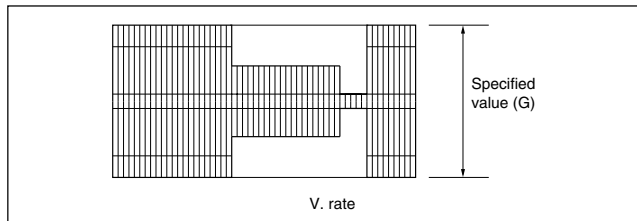

Fig. 3-3-4b REC color (colour) level
- (1) Connect the adjustment tool (H3) to the measuring point (D1).
- (2) Apply the external trigger signal to D.FF (E) to observe the PB color (colour) waveform at the measuring point (D2).
- (3) Play back the signal (A3) in the mode (B1) of the alignment tape (A1).
- (4) Press the channel buttons (+, -) simultaneously to enter the manual tracking mode. This also brings tracking to the center (centre).
- (5) Adjust tracking by pressing the channel buttons (+, -) so that the PB color (colour) waveform becomes maximum. Make a note of the higher PB color (colour) level as "B" at this time.
- (6) Record the signal (A3) in the mode (B1), and play back the recorded signal.
- (7) Set the VCR to the EVR mode by transmitting the code (F1) from the Jig RCU.
- (8) Set the EVR address to (F2) by pressing the button of the digit-key remote controller.
- (9) Adjust with the channel buttons (+, -) on the VCR (or on the remote controller) so that the higher level channel becomes the specified value (G) of the note "B" level as shown in Fig. 3-3-4b. (Adjust before recording, then confirm it by playing back.)
(10) After adjustment, record the signal (A3) then playing it back again. At this time, confirm that there is no inverting phenomenon or noise appearing on the playback screen.
(11) Release the EVR mode of the VCR by transmitting the code (F1) from the Jig RCU again. (When the EVR mode is released, the adjusted data is memorized.)
(12) Repeat steps (3) to (11) in the mode (B2).
- After adjusting, always perform the confirmation and re-adjustment of the item 3.4.1.